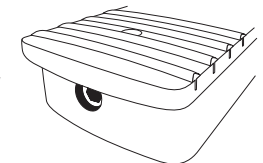

Figure 6: Truss Rod Inside Neck Pocket
**Note:** If your truss rod nut access is not visible, it is possible your instrument has it located inside of the neck pocket (Figure 6) - this will require the neck to be taken off of the body to adjust the truss rod.